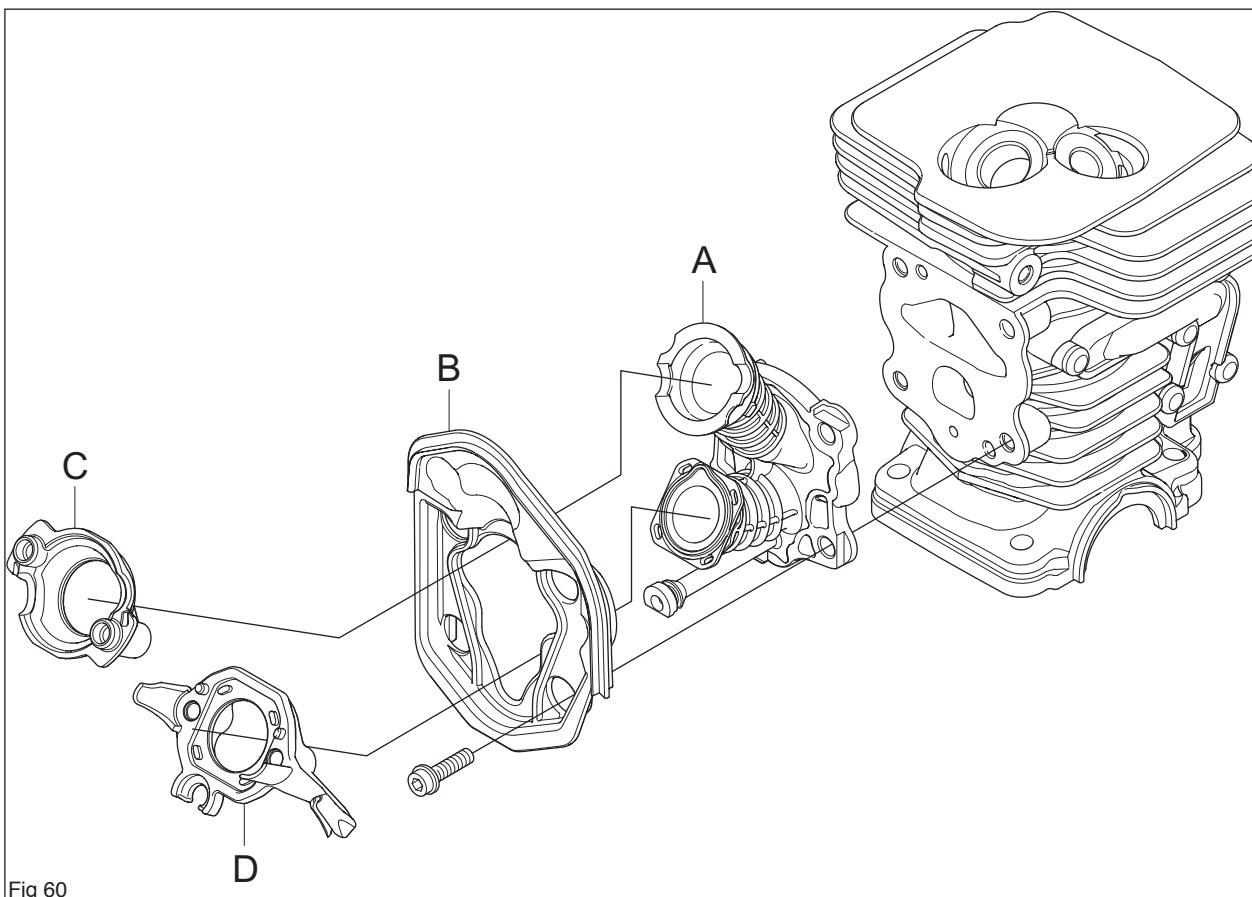

Fig 60
Assemble the carburettor flange (D) and air flange (C) on the intake bellows (A). Now assemble the intake bellows and the partition (B) on the cylinder using tool 502 50 87-01. (see figure 60)